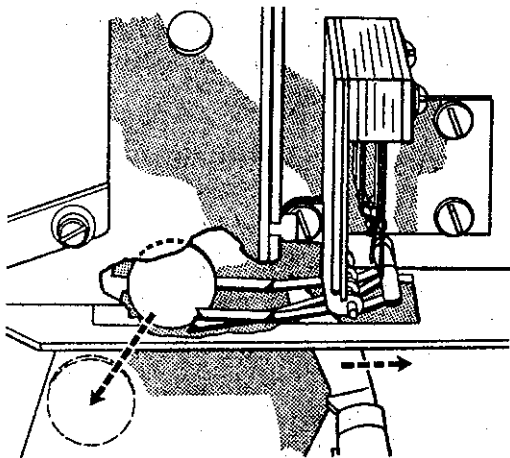

FIGURE 13. COIN TRAVEL
2. Move the knife blade *slowly* to the right to release the coin. The contacts must come together and the back blade should move approximately $1/64"$ just before the coin drops through of its own weight. (See Figure 13).